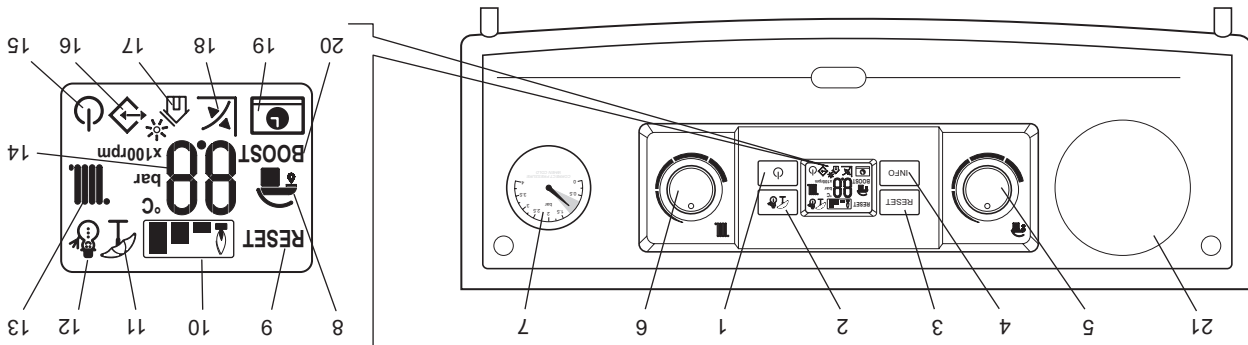

Fig. 1
On - In this mode the boiler can be switched between 'Summer' or 'Winter' settings by pressing the Summer/Winter button (item 2 in Fig. 1).
To fill or pressurise the system open one tap fully by turning it 90° anticlockwise in line with the tap housing. The second tap should be opened a quarter of a turn and the water will start to refill the system (water should be heard filling the system). You should see the pressure gauge (item 7 in Fig. 1) rise back up into the green area on the pressure gauge between 1 bar and 1.5 bar pressure.
The temperature of the hot water to the taps can be adjusted by turning the hot water selector switch (item 5 in Fig. 1) to the required value shown on the display in °C.
The temperature of the central heating water can be adjusted by turning the central heating selector switch (item 6 in Fig. 1). When the heating is on the temperature of the water leaving the boiler to the radiators will be displayed.
If an external weather compensation probe is fitted, indicated by the symbol (item 18 in Fig. 1) in the display, it will automatically vary the temperature of the water in the radiators and on mild day the radiators will not feel as hot as on a cold day, this is normal and not a fault with the boiler or heating circuit. The room temperature will still be maintained as set by the room thermostat.
When an external weather probe is fitted, the central heating selector switch (item 6 in Fig. 1) will no longer adjust the flow temperature in °C, instead the display will show a scale of 1 to 9. Each number corresponds to a line on the graph in Fig 2 i.e. line 6 will give a flow temperature of 60°C when the external temperature is 10°C.
Make sure the heating system is filled and the needle on the pressure gauge (item 7 in Fig. 1) is in the green band. If incorrect refer to Section 5.
Switch the boiler on at the mains supply socket switch. The boiler will automatically go through a system purging operation for 8 minutes; this is indicated by a count down on the display starting from 96. During this operation the pump will turn on and off to help remove any air that may be trapped in the heating system. If the boiler has already been commissioned by the installer then this operation can be terminated by pressing the reset button (item 3 in Fig. 1).
By pressing the On-Off button (item 1 in Fig. 1) the Standby or On mode can be selected, or press and hold the On-Off button for eight seconds to turn the boiler off.